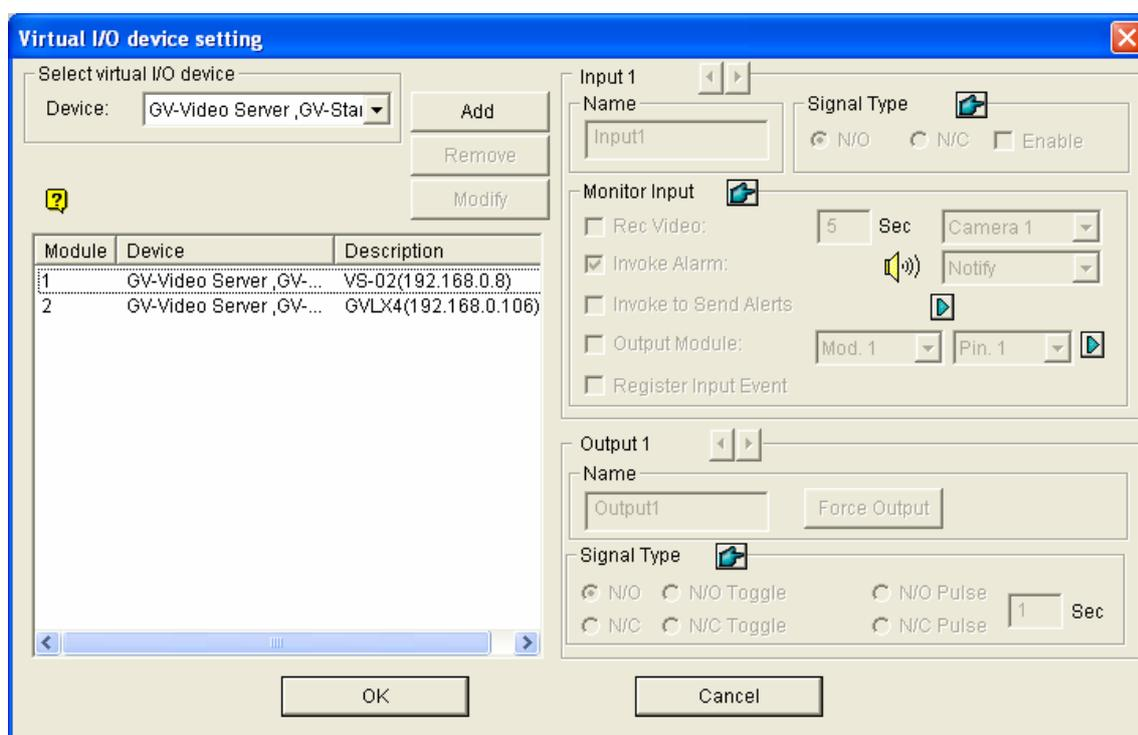

Figure 2-33
2. In the Virtual I/O Device Setting dialog box (see Figure 2-33), select one device, e.g. **GV-Video Server**, **GV-Comact DVR**, **GV-IP CAM 1.3M I/O**, and then click the **Add** button. This dialog box appears.